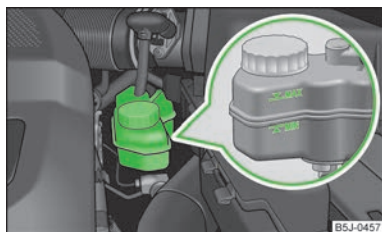

Fig. 118
- Check the level of brake fluid in the reservoir » Fig. 118. The level must be between the "MIN" and "MAX" markings.